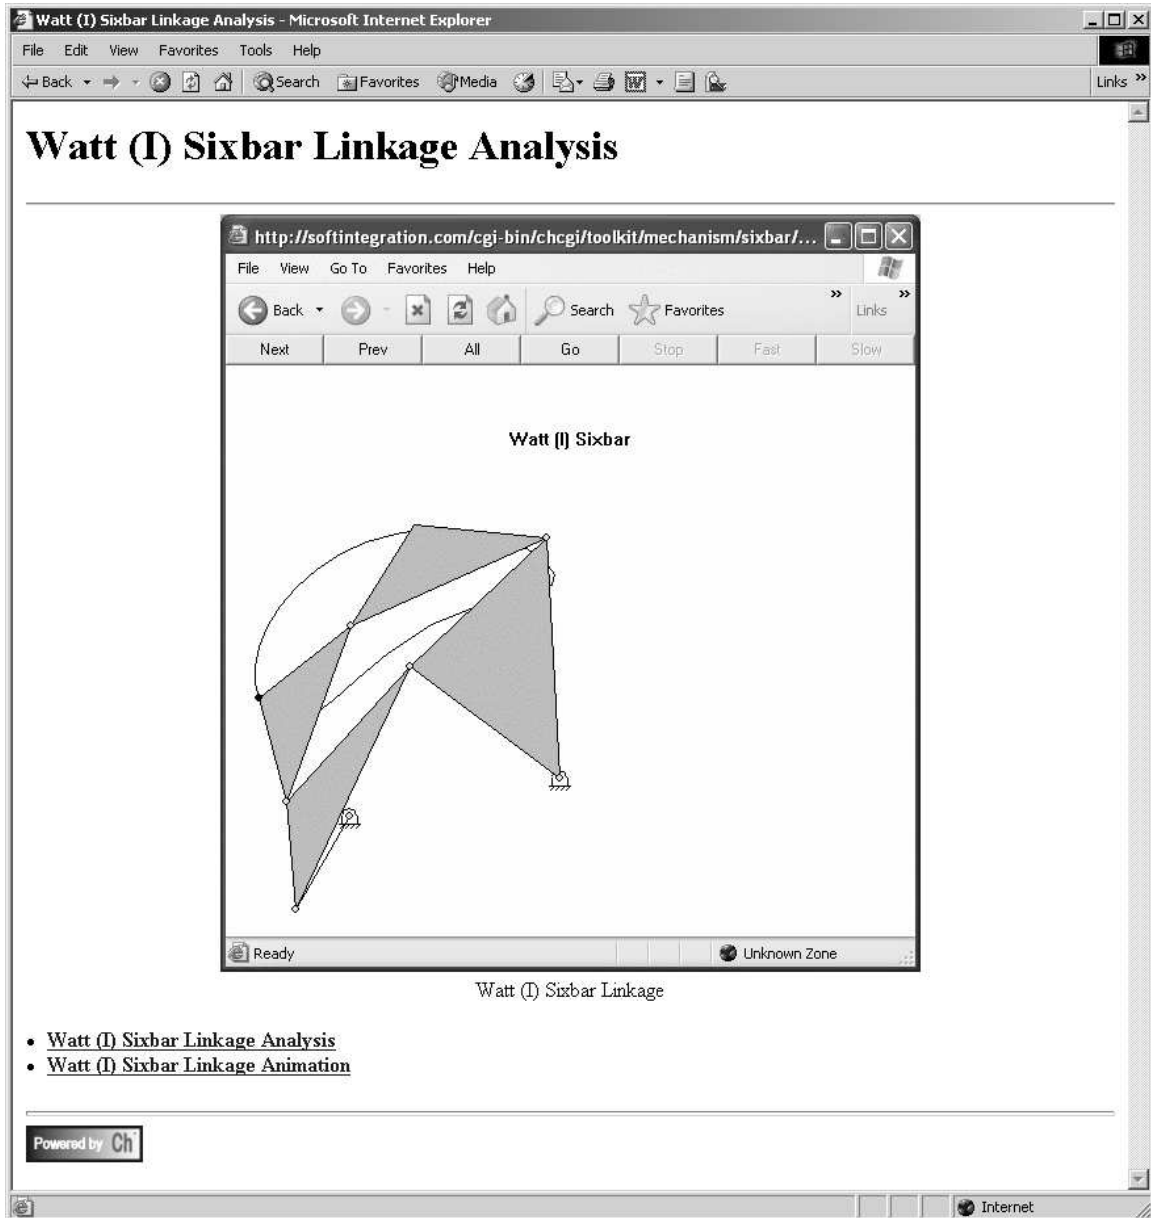

Figure 5.9: Main web page for Watt (I) sixbar analysis.
All the analysis methods discussed in the previous sections for the Watt (I) sixbar linkage can be performed with a couple of interactive web pages. Figure 5.9 shows the main web page for web-based analysis of the Watt (I) sixbar linkage. The web page shown in Figure 5.10 can be used to calculate the angular properties of links 3-6 of the Watt (I) sixbar. Also, the position, velocity, and acceleration values can be determined for the coupler point(s) associated with link(s) 5 and/or 6. For example, consider the Watt (I) sixbar linkage defined in previous problems. By entering the given values for the link lengths, θ_1 , β_3 and β_4 , coupler point properties, and angular properties of the input link, link 2, the output of running the web-based analysis is shown in Figure 5.11.